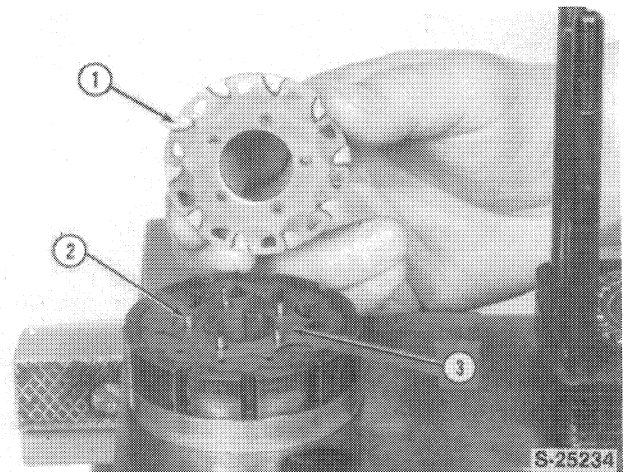

FIGURE 6-45
26. Remove the commutator, 1, from the rotor, 3, Figure 6-45.
27. Remove the five alignment pins, 2, from the rotor, 3, Figure 6-45.